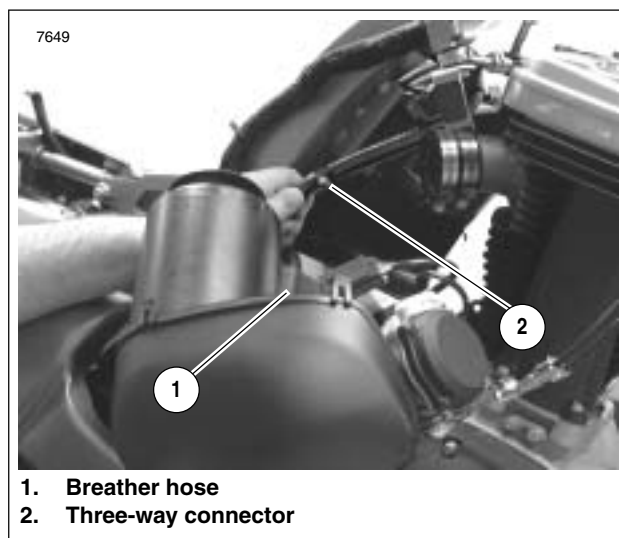

Figure 3-35. Crankcase Breather Hose
24. See Figure 3-35. Connect crankcase breather hose to three-way connector.